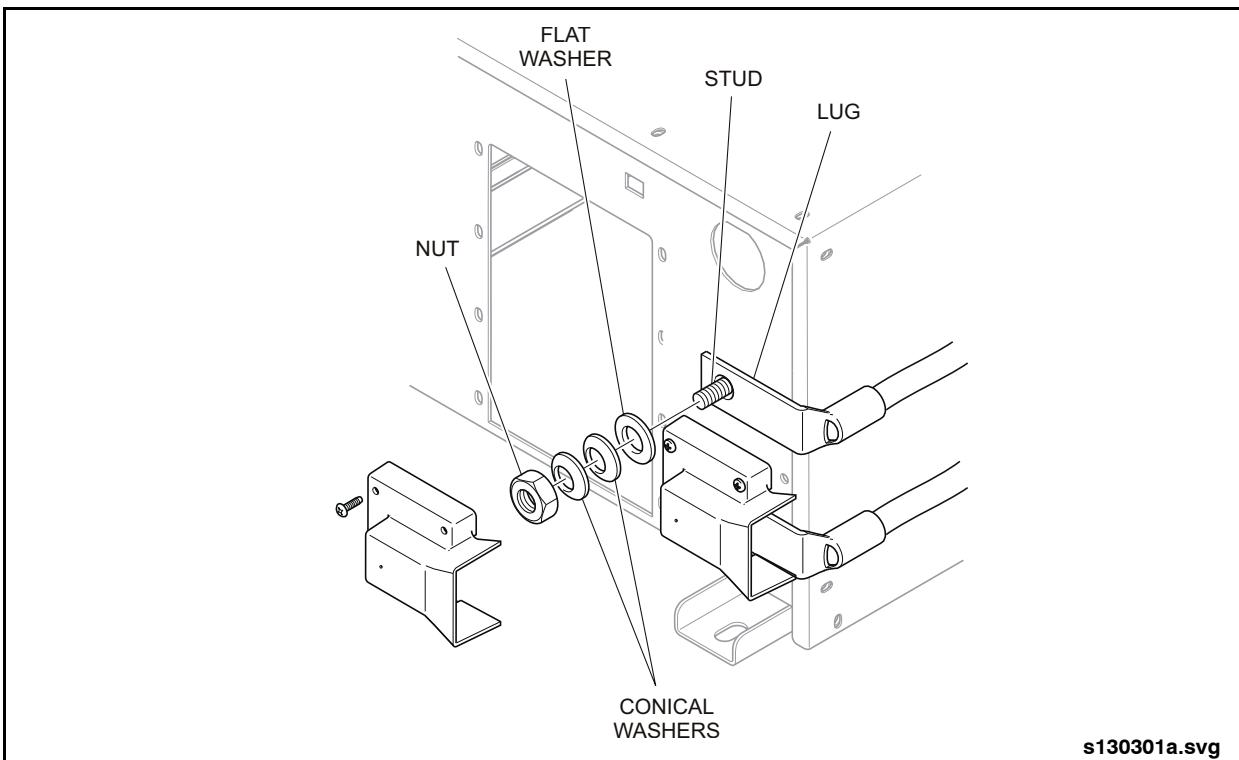

Fig. 9-6: Low Voltage Lug Installation Detail
5. Install new hardware and torque fasteners to 100 in-lb. (11 Nm). See ""Fig. 9-6: Low Voltage Lug Installation Detail" on page 13.